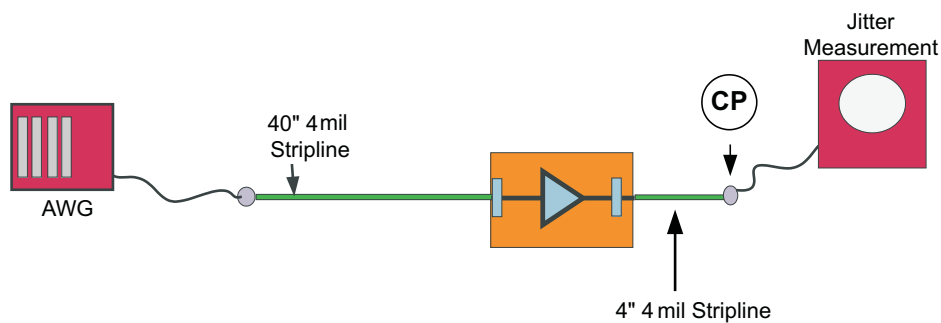

Figure 6. Jitter Measurement Test Condition
- (1)  $T_J = (14.1 \times RJ_{SD} + DJ)$  where  $RJ_{SD}$  is one standard deviation value of RJ Gaussian distribution. Jitter measurement is at the CP connector and includes jitter generated at the package connection on the printed circuit board, and at the board interconnect as shown in Figure 6.